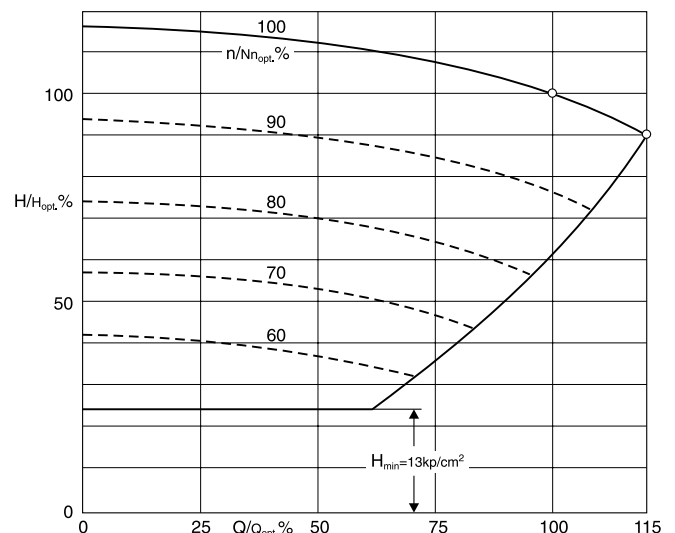

Fig. 21 Pump operating diagram.
2. Pumps operating at variable (controlled) speed may only be operated within the range indicated in the pump operating diagram below. It should be noted that the throughput which can be achieved decreases with decreasing speed and pressure. (see Fig. 21)